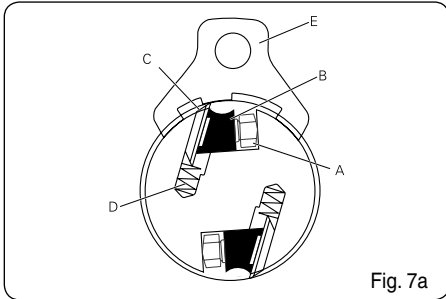

Fig. 7a
## REMOVING THE PLANER BLADES (Fig. 7a)
- Loosen the lock bar (B) and blade by turning the lock screws (A) clockwise. The blades are spring loaded, and will push out when the assembly is loosened. (Fig. 7a)
- Take out the blade (C), and then the blade lock bar (B).
## INSTALLING THE PLANER BLADES (Fig. 7a)